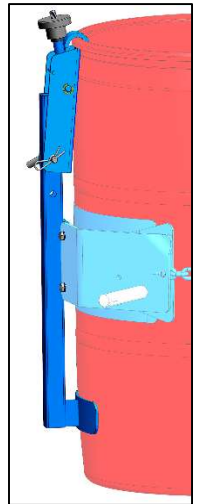

Figure 2.2
- 2. Top Rim Clamp Kit # 4560B-P** to handle a RIMMED plastic drum (figure 2.2). Install the Top Rim Clamp Kit to handle a RIMMED plastic, steel or fiber drum with suitable top rim.